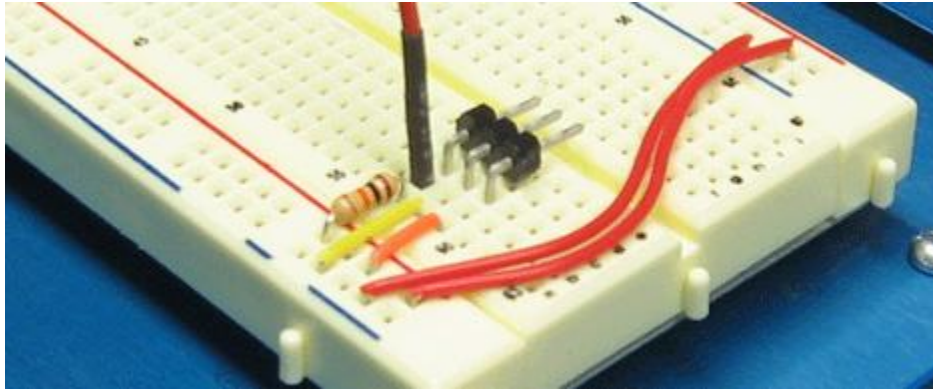

Figure 5. Wires for front-facing sensor.
**3. Insert a flexible red jump wire, a 10,000-Ohm resistor, a three-prong bent connector, a short yellow jump wire, and a short orange jump wire into the XBoard, as shown in Figure 5.**
**1. Attach the left down-facing sensor board to the front of the chassis, using two ½" 4-40 machine screws and nuts. Mount the sensor on the lowest slot, as shown in Figure 5.**